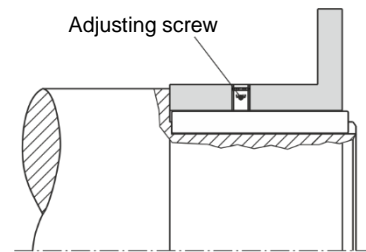

Fig. 4
- For axial securement, please provide an additional adjusting screw (ISO 4029 - 45H) as an alternative to a press cover (see Figs. 4 and 5).